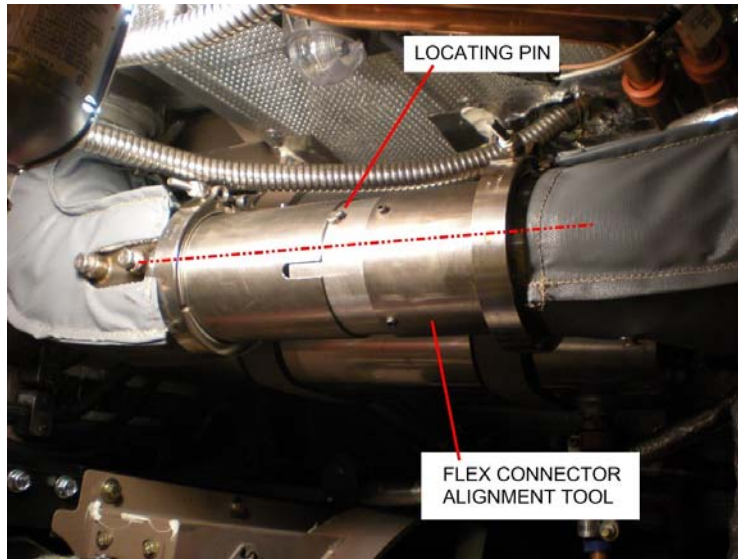

Fig. 2
- b. Muffler elbow V-Band clamp, Downpipe V-band, Downpipe U-Bolt and Turbo Elbow V-Band (Fig 2)
5. Rotate both ends of the alignment tool until it locks into the expanded position (locating pin should be out of the slot and in contact with edge of the slotted end of the tool). Make sure that the flanged end of the exhaust tubes are properly seated to the tool. Install the V-band clamps. Adjust the exhaust tubes as required. See Fig. 2 below on the following page.